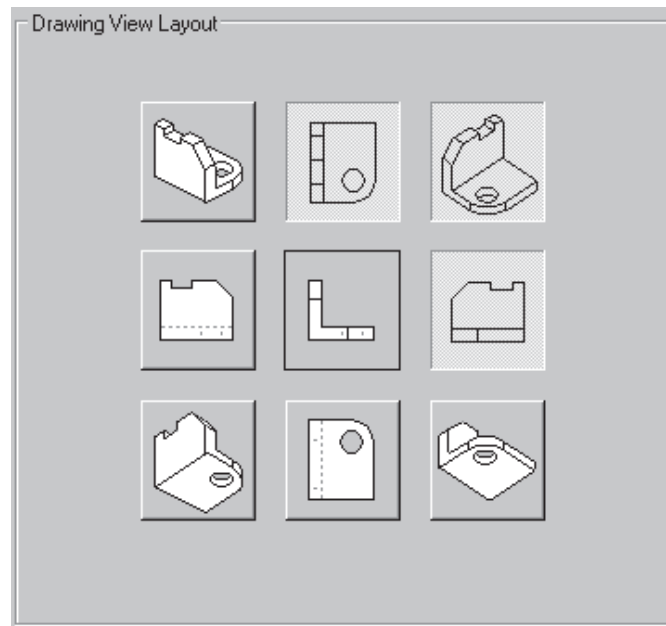

Figure 11-33 The *Drawing View Layout* area of the *Drawing View Creation Wizard* dialog box
5. Select the views shown in Figure 11-33 from the **Drawing View Layout** page and then choose the **Finish** button.